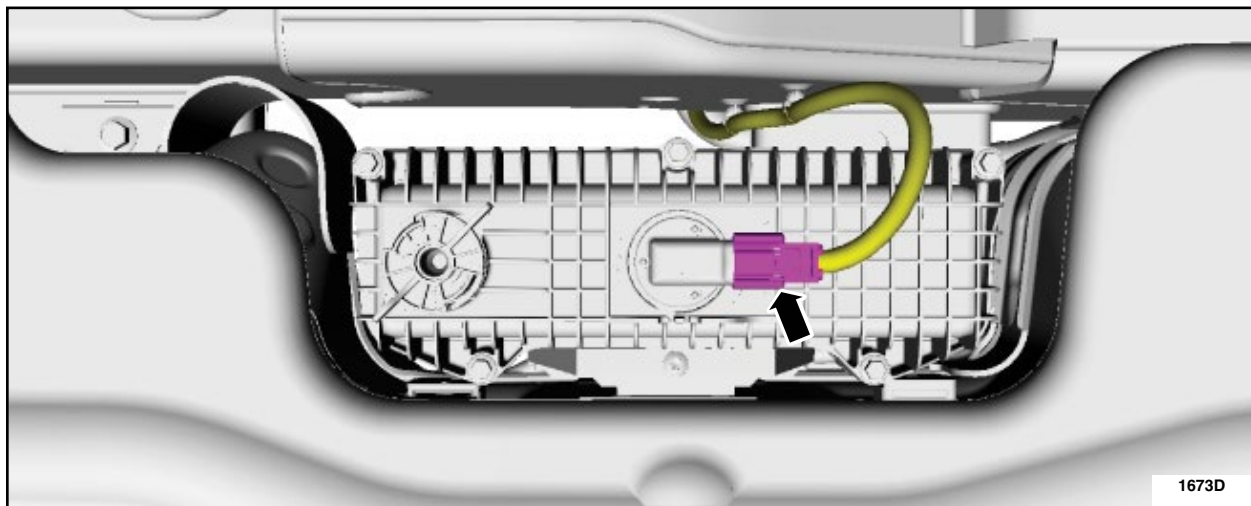

FIGURE 1
4. Disconnect the water-in-fuel (WIF) sensor electrical connector. See Figure 1.